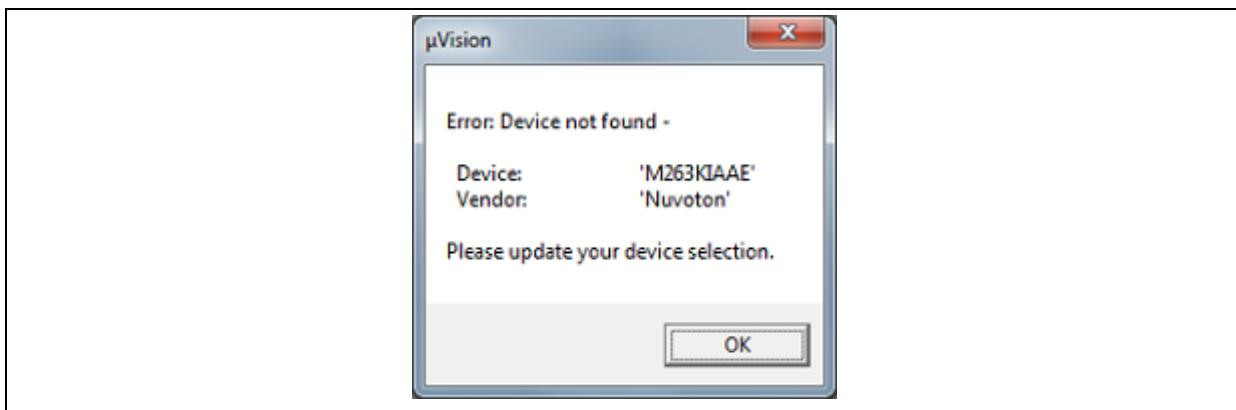
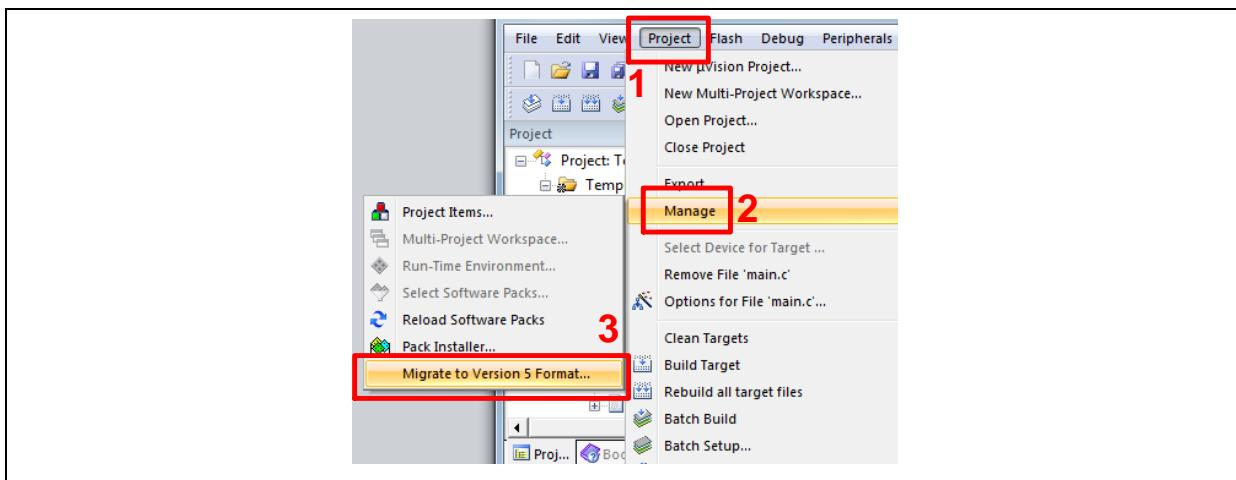

Figure 3-8 Warning Message “Device not found”
Figure 3-9 Project File Migrate to Version 5 Format
**Note:** If the warning message shown in Figure 3-8 appears, please migrate to version 5 formats as shown in Figure 3-9. The “.uvproj” filename extension will change to “.uvprojx”.